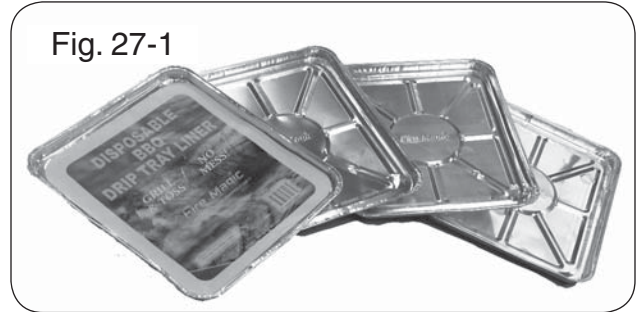

Fig. 27-1
Your grill includes a pack of four (4) Fire Magic® drip tray liners (Fig. 27-1). For your convenience in cleanup, place a liner into the drip tray before grilling.